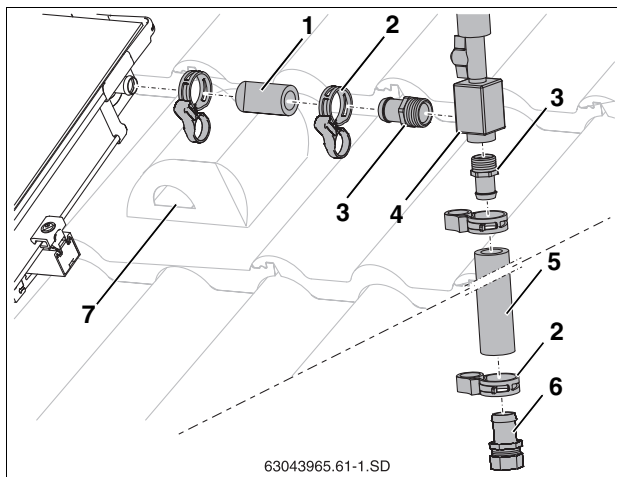

Fig. 53 Connecting the air vent valve on roof
- ▶ Push short solar hose (4 in (55 mm), Fig. 53, [1]) onto the supply connection on the collector array and fix in place using hose clamp.
- ▶ Slide hose clamps (Fig. 53, [2]) over the hoses.
- ▶ Firmly screw hose adapter (Fig. 53, [3]) into the air vent (Fig. 53, [4]).
- ▶ Insert hose adapter (Fig. 53, [3]) into the solar hoses (Fig. 53, [1] and [5]) as far as they will go, and fix in place using hose clamps (Fig. 53, [2]).
- ▶ Insert hose adapter with compression fitting (Fig. 53, [6]) into the solar hose as far as it will go, and fix in place with hose clamps.
- ▶ Feed solar hose together with the sensor cable through the penetration (Fig. 53, [7]) and through the roof insulation.
- ▶ Connect header pipe to the hose adapter with hose clamp (Fig. 53, [6]).